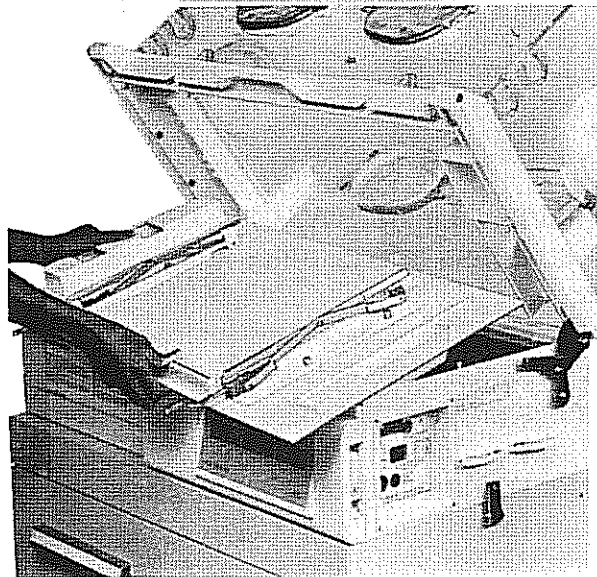

FIGURE 4.6 REMOVAL OF MAIN DECK - GROUP 2
- H. **REMOVE MAIN DECK (GROUP 2).** Refer to Figure 4.6 and remove the Main Deck.
- C. INSTALL THE DECK PLATE (GROUP 2).** Refer to Figures 4.6, 4.7 and 4.11 and install the Deck Plate. Make sure the Deck Plate is properly aligned on its Key Pins.